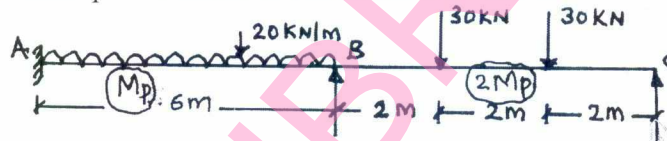

Fig.Q2(b)
- Analyse the continuous beam ABC subjected to working loads shown in Fig.Q2(b) and determine the maximum plastic moment. Take load factor of 1.85. (08 Marks)